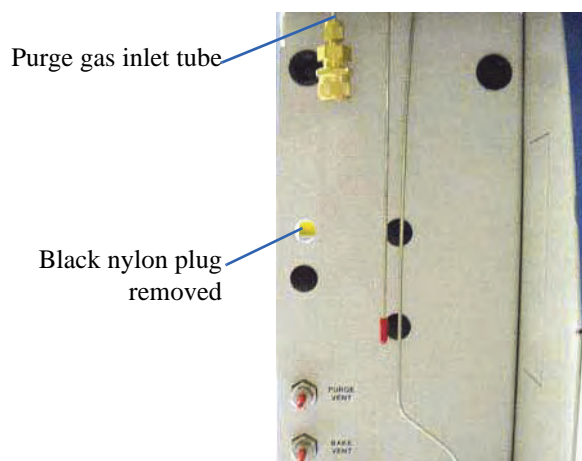

Figure 9.1. Remove the black nylon plug
4. Remove the black nylon plug from the top left hole in the Eclipse chassis by squeezing the tabs on both sides of the plug (inside the chassis) and pushing the plug out of the hole (Figure 9.1).